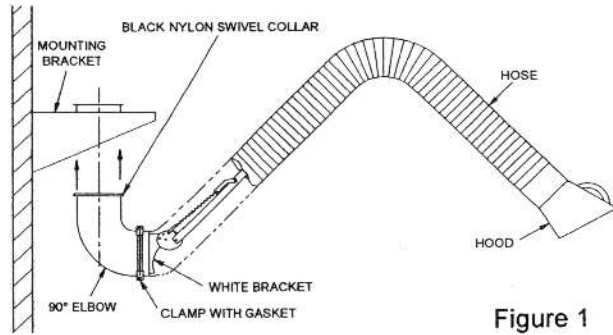
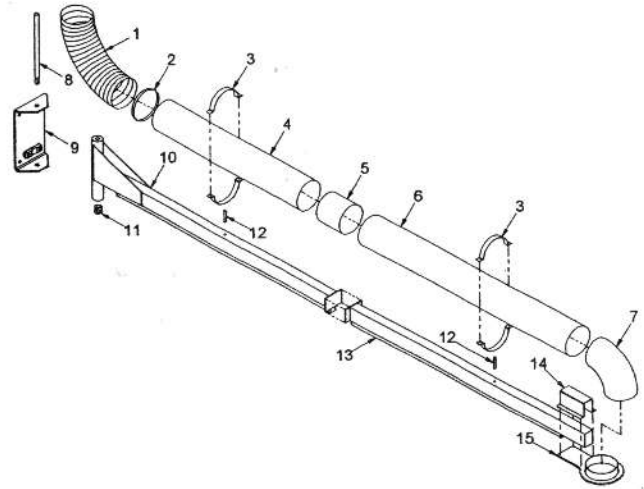
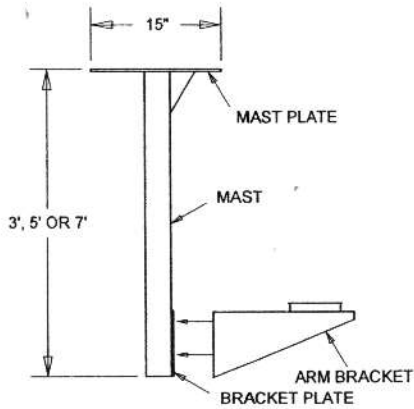

Figure 1
Figure 5
Figure 11
Please note that the arm support structure is inside a tube. The hose for the arm is on the outside of the tube. First remove the hose from the tube. Take care not to damage the hose. Patience is the best assurance. Secondly, remove the support structure from inside the tube. Each arm requires several components. Lay out the components to be sure that you have received all the correct components. See figure 1 for arm layout.
There will be assembly required for the boom arm and the flex arm (if purchased with boom). Lay out the enclosed components and compare to the list and to figure 5, to be sure that you have received all the correct components. The boom arm components are in 2 long boxes. Remove the components and place in order as shown in figure 5. The flex arm (if purchased with boom) is packaged in a shorter box, refer to page 2 & 3 for the parts list and see figure 1 for the arm layout. **Note:** Mounting plate not included.
6. Install the clamp profile to the exhaust arm mounting support using the 6 bolts, nuts, and lock tooth washers. Slip this assembly over the end of the boom end with the angle flange facing up. See figure 5. Slip over until the arm mounting support hits the groove channel. Tighten this assembly.
Please note that the arm support structure is inside a tube. The hose for the arm is on the outside of the tube. First remove the hose from the tube. Take care not to damage the hose. Patience is the best assurance. Secondly, remove the support structure from inside the tube. The kit requires several components. Lay out the components to be sure that you have received all the correct components. See figure 1 for arm layout and figure 11 for blower/motor layout.
See figure 11